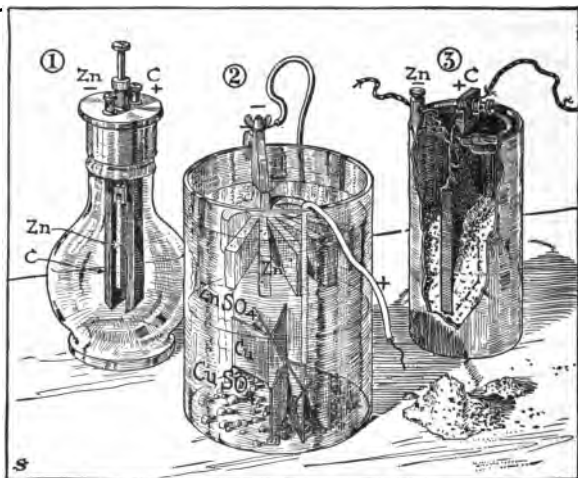

FIG. 197. Some common forms of electric cells. No. 1 is the Grenet cell, No. 2 is the gravity cell, and No. 3 the dry cell.
**The gravity cell.** This form (see Figure 197) is extensively used by the Western Union and other telegraph companies. Crystals of copper sulfate are placed in the bottom of the battery jar, which is then filled with water. A piece of copper is placed in the bottom of the cell, and a piece of zinc is suspended at the top. A few drops of sulfuric acid are added to the water. Both zinc and copper have wires leading from them out of the liquid.